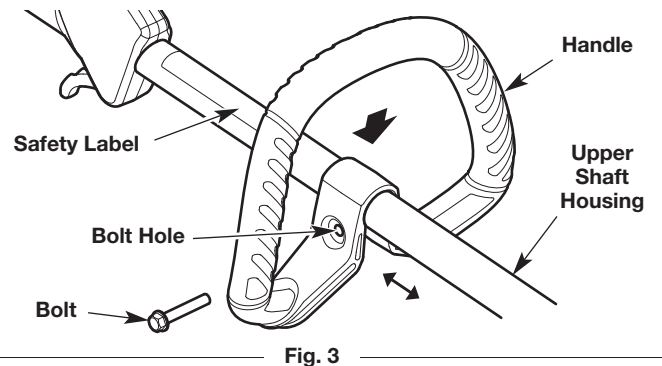

Fig. 3
1. Push the handle down onto the upper shaft housing (Fig. 3). Make sure the bolt hole faces to the right (Fig. 3).
2. Insert the bolt into the bolt hole and push it through (Fig. 3). Tighten the bolt with a flat-head screwdriver, but do not tighten the bolt completely.
3. Hold the unit in the operating position (Fig. 10). Move the handle up or down the upper shaft housing to a comfortable location (Fig. 3). Make sure the handle is positioned beyond the end of the safety label (Fig. 3).
1. Loosen the bolt with a flat-head screwdriver (Fig. 3).
2. Hold the unit in the operating position (Fig. 10). Move the handle up or down the upper shaft housing to a comfortable location (Fig. 3). Make sure the handle is positioned beyond the end of the safety label (Fig. 3).